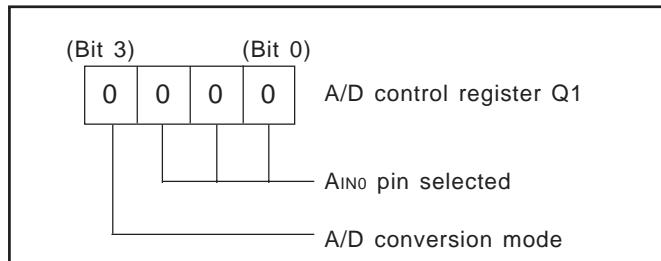

Fig. 33 Setting registers
- ① Select the AIN0 pin function and A/D conversion mode with the register Q1 (refer to Figure 33).
- ② Execute the ADST instruction and start A/D conversion.
- ③ Examine the state of ADF flag with the SNZAD instruction to determine the end of A/D conversion.
- ④ Transfer the low-order 2 bits of converted data to the high-order 2 bits of register A (TALA instruction).
- ⑤ Transfer the contents of register A to M (Z, X, Y) = (0, 0, 2).
- ⑥ Transfer the high-order 8 bits of converted data to registers A and B (TABAD instruction).
- ⑦ Transfer the contents of register A to M (Z, X, Y) = (0, 0, 1).
- ⑧ Transfer the contents of register B to register A, and then, store into M(Z, X, Y) = (0, 0, 0).